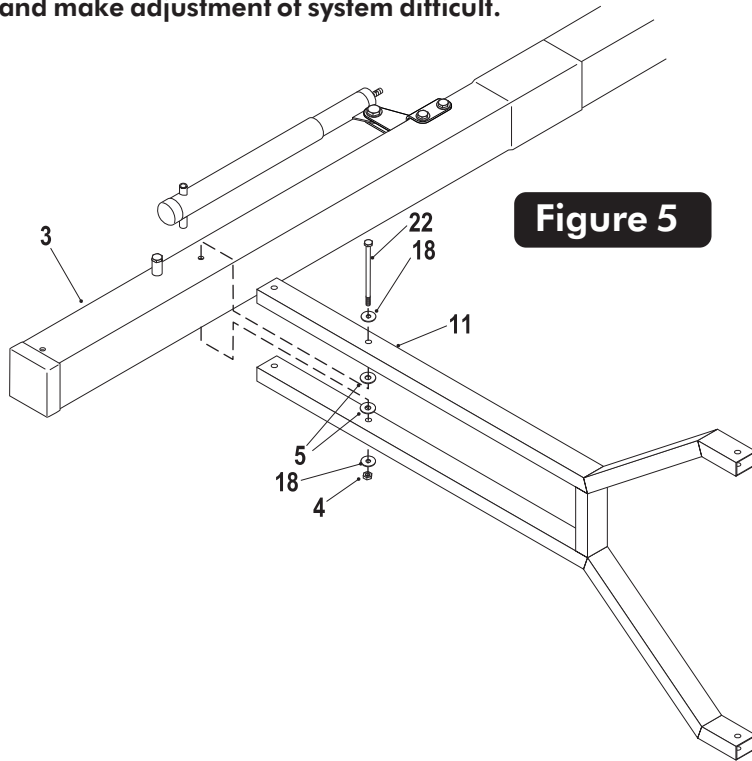

Figure 5
8. Attach lower arms (#11) to Top Pole (#3), as shown in Figure 5, using a hex bolt (#22), two flat washers (#18), two plastic washers (#5) and lock nut (#4).
Note: make sure lettering is right side up. (See Side View). DO NOT tighten bolt (#22) at this time. (See Figure 5.)